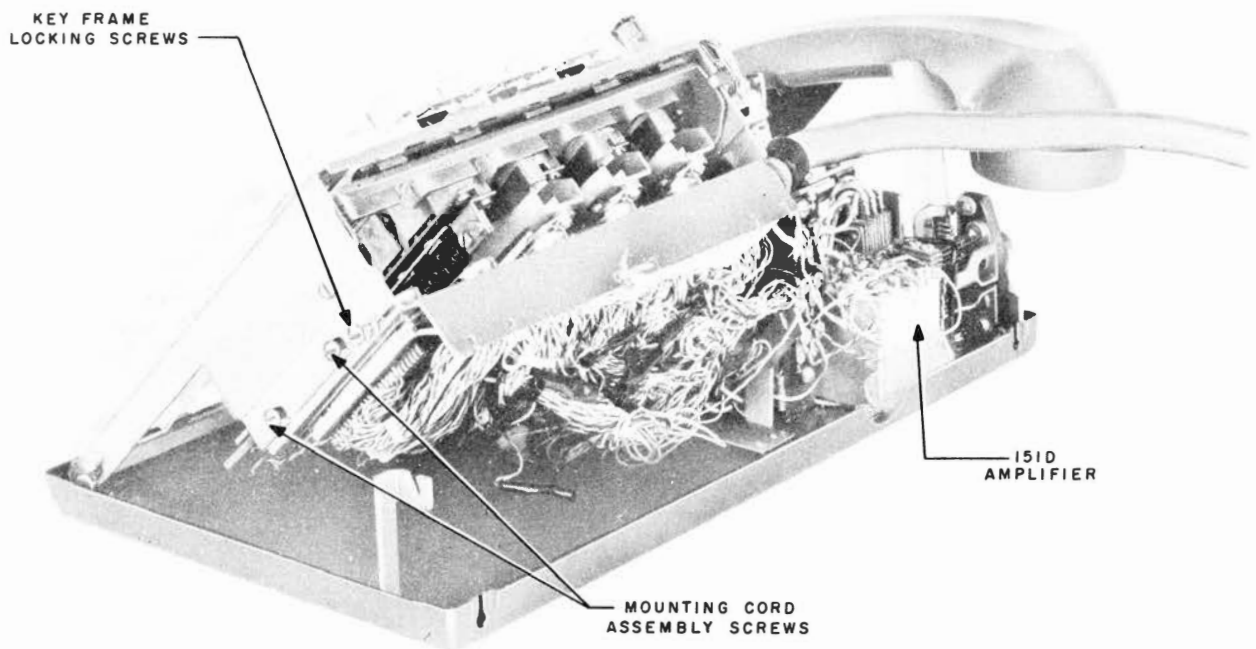

Fig. 8 — 639-Type Telephone Set, Key Frame Lifted, Rear View
3. Loosen screws on sides of key frame (Fig. 8).
7. Remove screws on right and left sides of key frame (Fig. 8).